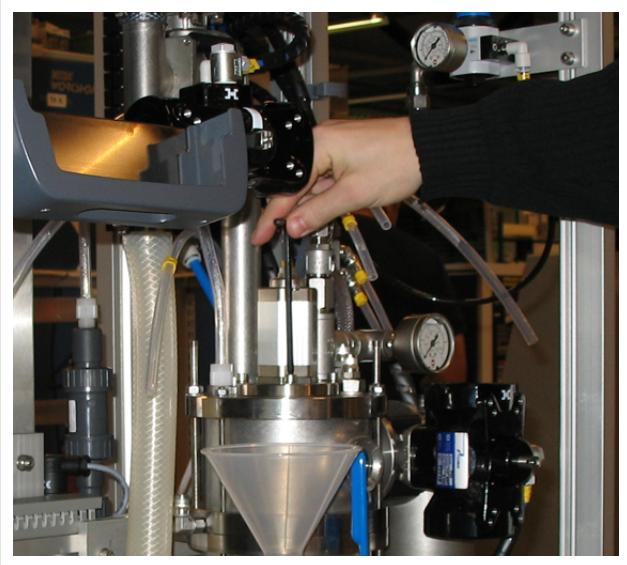

Fig. 2. Detaching the level transmitter bushing.
3. Detach the level sensor cable and bushing (with a 5mm Allen key) from the washing chamber cover, and lift the sensor off (Fig. 2 and 3).